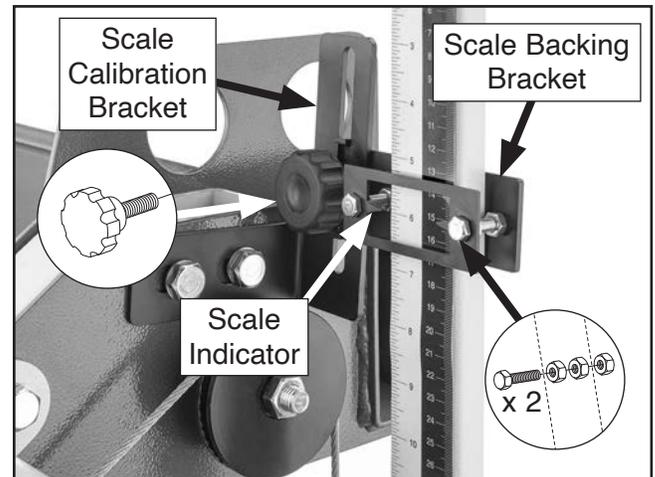

Figure 42. Scale backing bracket and scale indicator installed.
42. Attach scale backing bracket to scale calibration bracket with (1) $\frac{5}{16}$ "-18 x $\frac{5}{8}$ " knob bolt (see **Figure 42**).
43. Attach scale indicator to scale backing bracket, around scale, with (2) M6-1 x 30 hex bolts and (6) M6-1 hex nuts (see **Figure 42**).